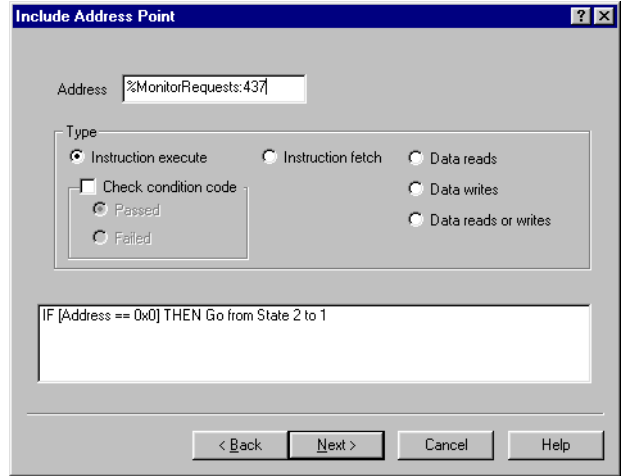

Figure 8-40 Include Address Point dialog box
3. Click on **Next>**. The Include Address Point dialog box shown in Figure 8-40 on page 8-41 is displayed.